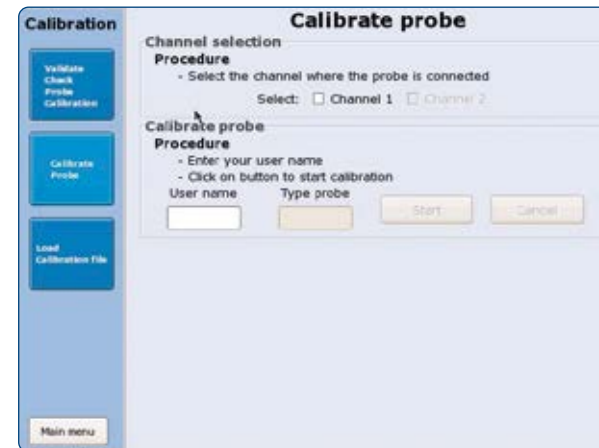

Figure 54: Start of the Sensor Unit calibration.
4. Enter the user name and press start (Figure 54).